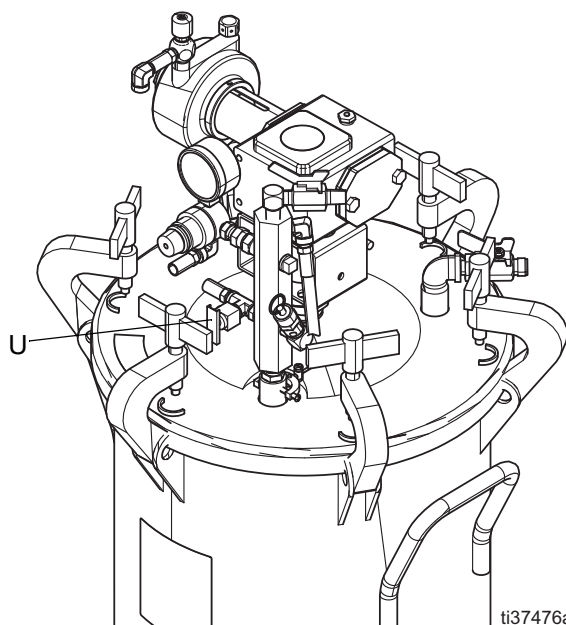

FIG. 3: 5 Gallon Tank with Heavy-Duty Agitator
NOTE: Position the air motor so it faces away from the air regulator mounting as shown in FIG. 3.
- Loosen the two set screws (13) and remove the agitator paddle (12).
- On 10 and 15 gallon tanks:** remove the lower U-bolt (26), loosen screws (24) and slide the baffle (23) off the fluid tube (K).
- Unscrew and remove the hex jam nut (C), gasket (17), and agitator from the tank cover.
- Place the gasket (17) on top of the tank cover center hole. Insert the agitator drive shaft (14) through the center hole.
- NOTE:** Position the air motor so it faces away from the air regulator mounting as shown in FIG. 3, page 9.
- Install the jam nut (C) below the tank cover. Tighten the jam nut firmly to assure a seal between the gasket (17) and tank cover.
- Install the shaft support (11) onto the shaft housing (9). Secure with U-bolt (26), clamp (10), lock washer (36) and nut (25).
10. **10 and 15 gallon tanks:** place the lower bearing assembly (2) and (3) on the shaft.